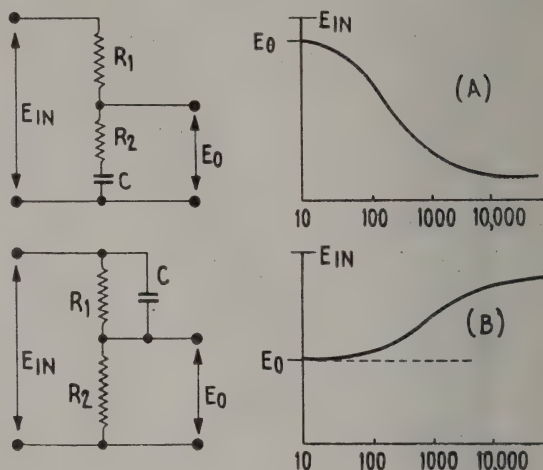

Fig. 4.
Sometimes, especially with midgets, space does not permit the use of a variable resistance, and, as often as not, a compromise is made by connecting a condenser of suitable value across the primary of the output transformer to give a certain amount of top cut, and hence the effect of "bass boost." Considerable improvement can be easily made with a little thought and experiment if the following principles are obeyed. Fig. 4(A) shows the basic circuit for "bass boost," and Fig. 4(B) for "treble boost." Taking (A), at high audio frequencies the reactance of C is negligible, and the system boils down to a